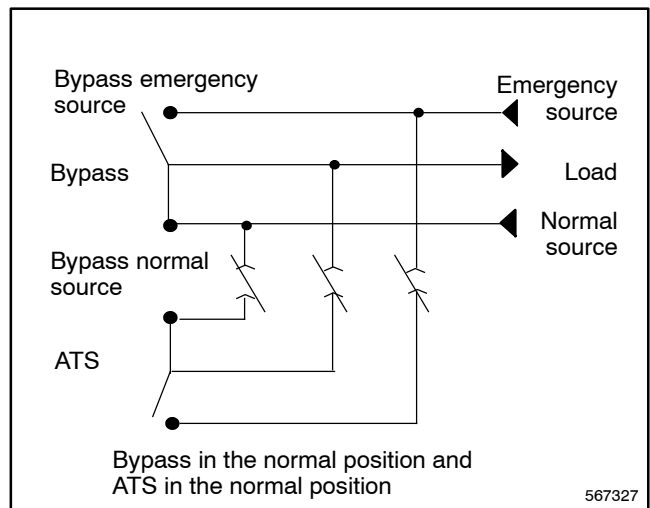

Figure 3-7 Bypass Position
Interlocks prevent reconnection of the ATS after bypass if the ATS and bypass switch source positions do not match. See Figure 3-7.
- a. The bypass switch and ATS are not positioned to the same source. See Figure 3-7.
- d. The source selected is opposite of the ATS position while in the auto position. See Figure 3-7.